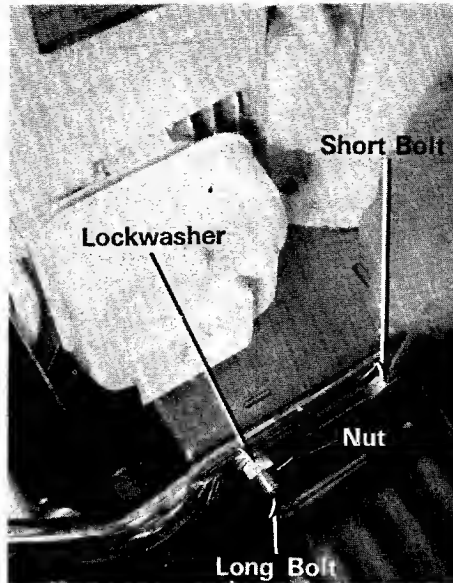

Figure 2
- 2 Using the two 5/16" hex head bolts, attach the right side of the handle assembly to the right side of the frame. (See figure 2.)